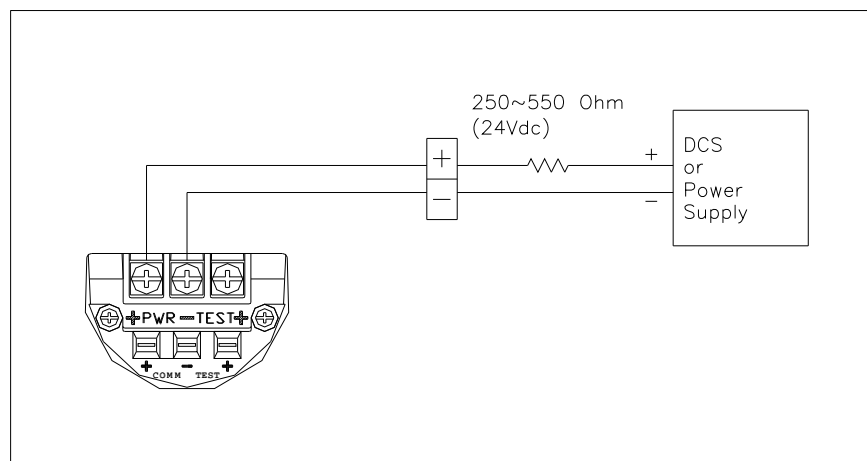

Figure 4-2 Connection with Terminal Board of Transmitter
- (7) You have to connect 250~600  $\Omega$  Loop Resistor in Current Loop(between Power Supply and Transmitter) for HART Communication HART. Following Figure 4-2 about connection of Current Loop.